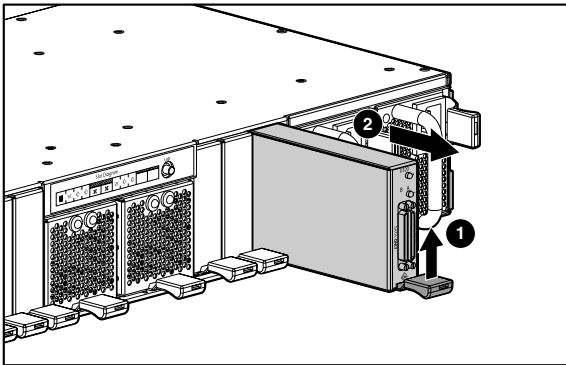

Figure 2: Removing the SCSI I/O module
1. Lift the port-colored SCSI I/O module latch ❶ and pull the SCSI I/O module out of the enclosure ❷ as shown in Figure 2.